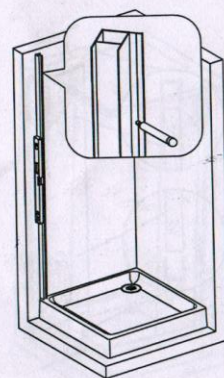

fig 2
2. Place the **wall profile (2)** on the shower base and center its sides on the base, be sure to keep a tong with predrilled holes inside of shower enclosure. Using a level adjust the wall profile (2) upright. **Be sure that profile is absolutely vertical to the wall and base.** Then use predrilled into aluminum profile holes to put on marks for drilling. (See Fig 2,3)